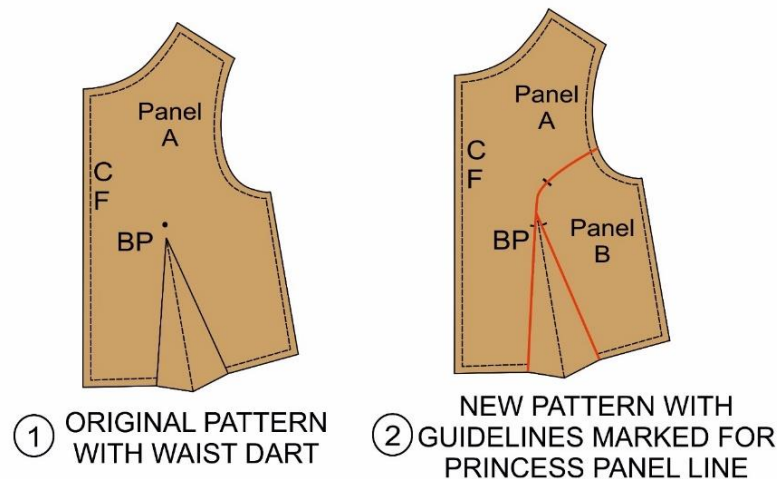

Fig. 2.14 Shifting of waist dart into Princess Seam from Armhole- Step 1
3. Mark the panels as A and B. (See Figure 2.14)